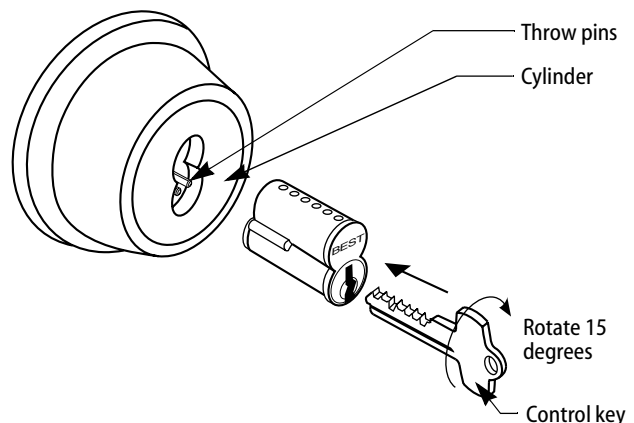

Figure 10 — Installing the core
- 1 Put the control key into the core and turn the key 15° clockwise. See Figure 10.
- 3 Turn the key 15 degrees counterclockwise and remove the key.